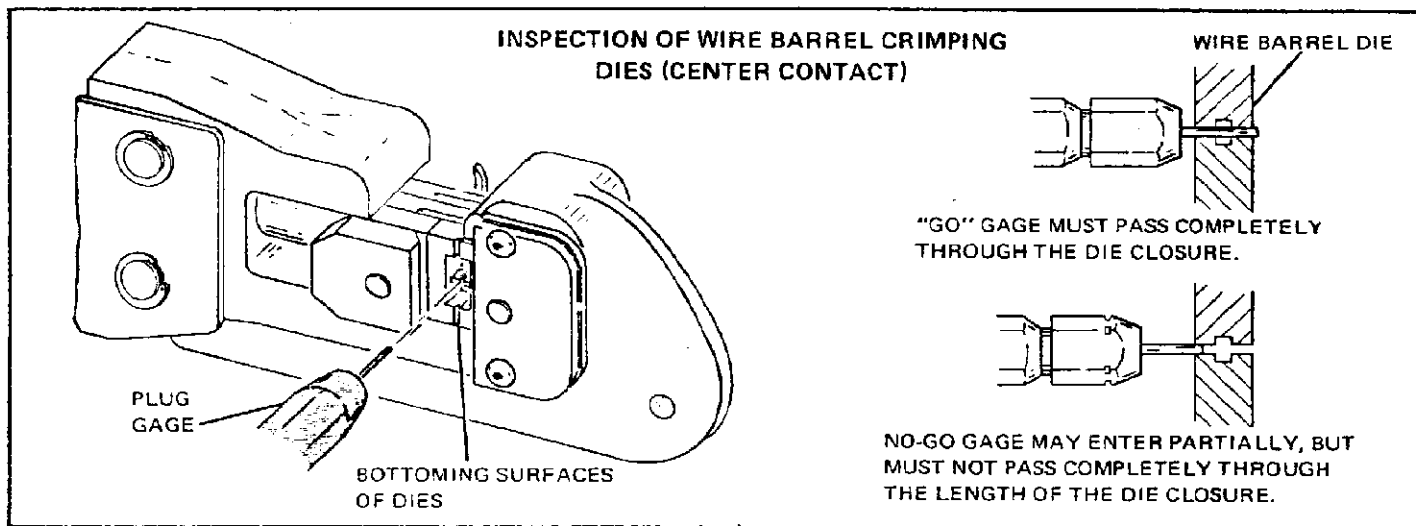

Figure 14
- (c) With crimping dies bottomed, check the center contact wire barrel crimp die closure using the proper plug gage. Hold gage in straight alignment with the dies and carefully try to insert, without forcing, the GO element, and then the NO-GO element. See Figure 14. The GO element must pass completely through the barrel crimp die closure.
- (d) The NO-GO element may enter partially, but must not pass completely through the length of the barrel crimp die closure. See Figure 14.